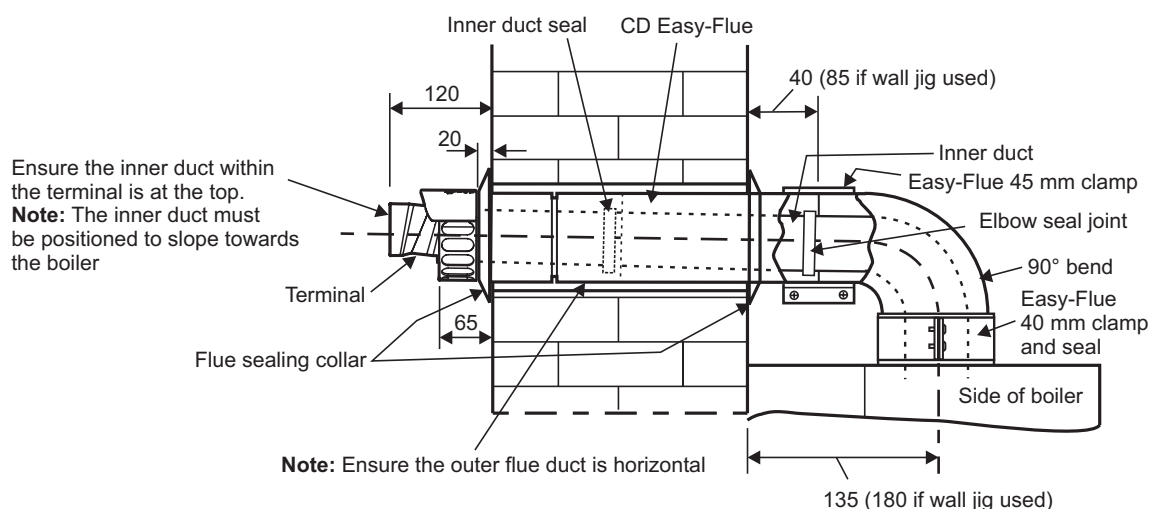

Fig. 5.9 - Rear flue
- Note:** Check the flue terminal protrudes 120 mm out of the wall and the inner duct of the terminal is positioned correctly (see Fig. 5.9).